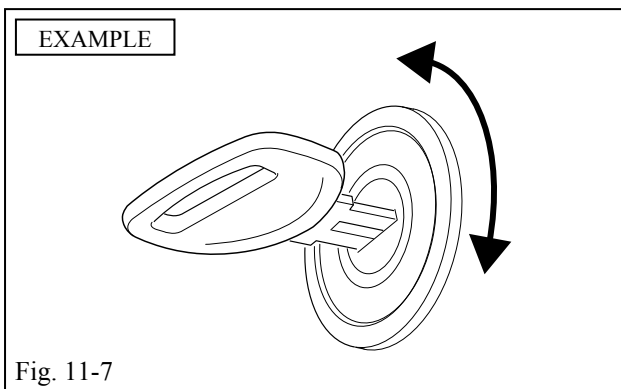

Fig. 11-7
- (j) Turn the Key to the "ON" position and back to the "OFF" position. (Fig. 11-7)